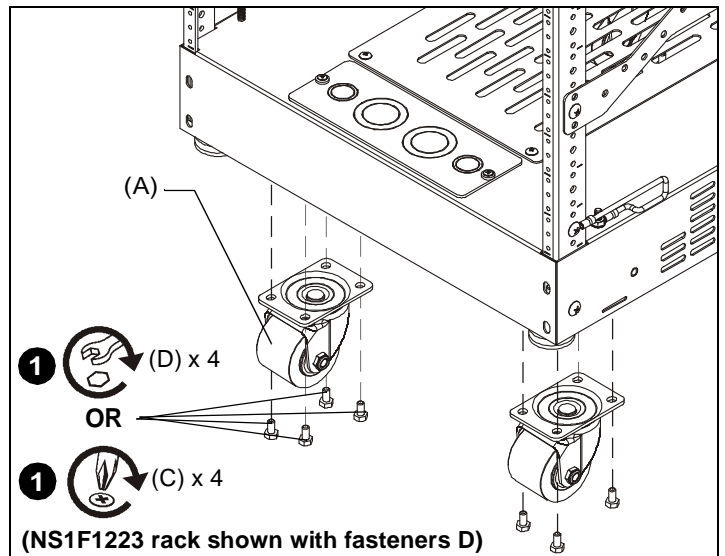

Figure 2
1. Attach a caster (A) to each lower corner of the S1 rack using four 1/4-20 x 1/2" hex head cap screws (D) [OR four 1/4-20 x 5/8" Phillips truss head machine screws (C)] for each caster. (See Figure 2)